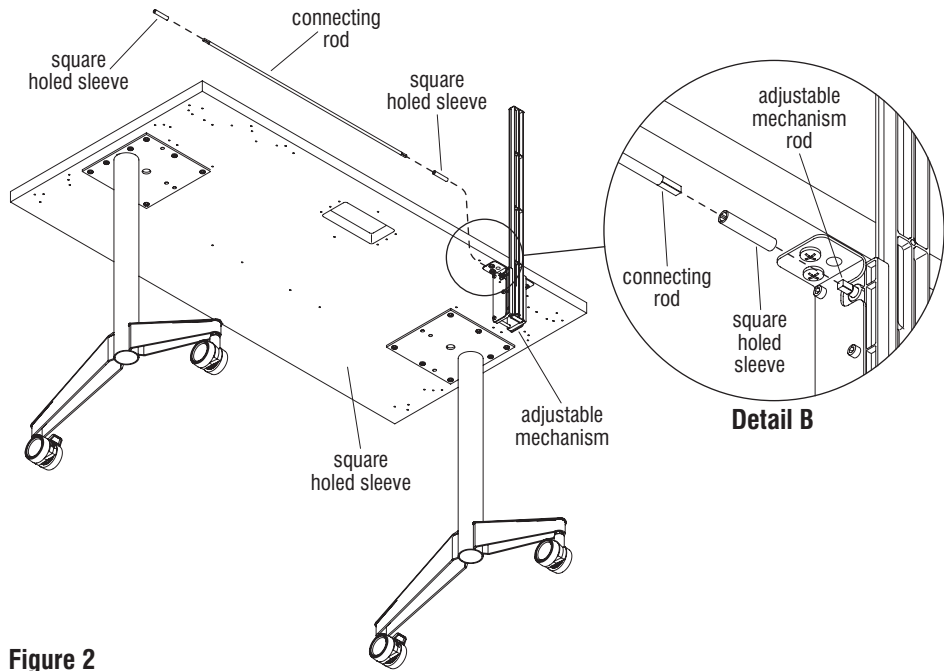

Figure 2
3. Insert a square holed sleeve onto the adjustable mechanism rod, then place the longer connecting rod onto the square holed sleeve just installed (Detail B). Finally, insert a second square holed sleeve onto the opposite end of the connecting rod (Figure 2).